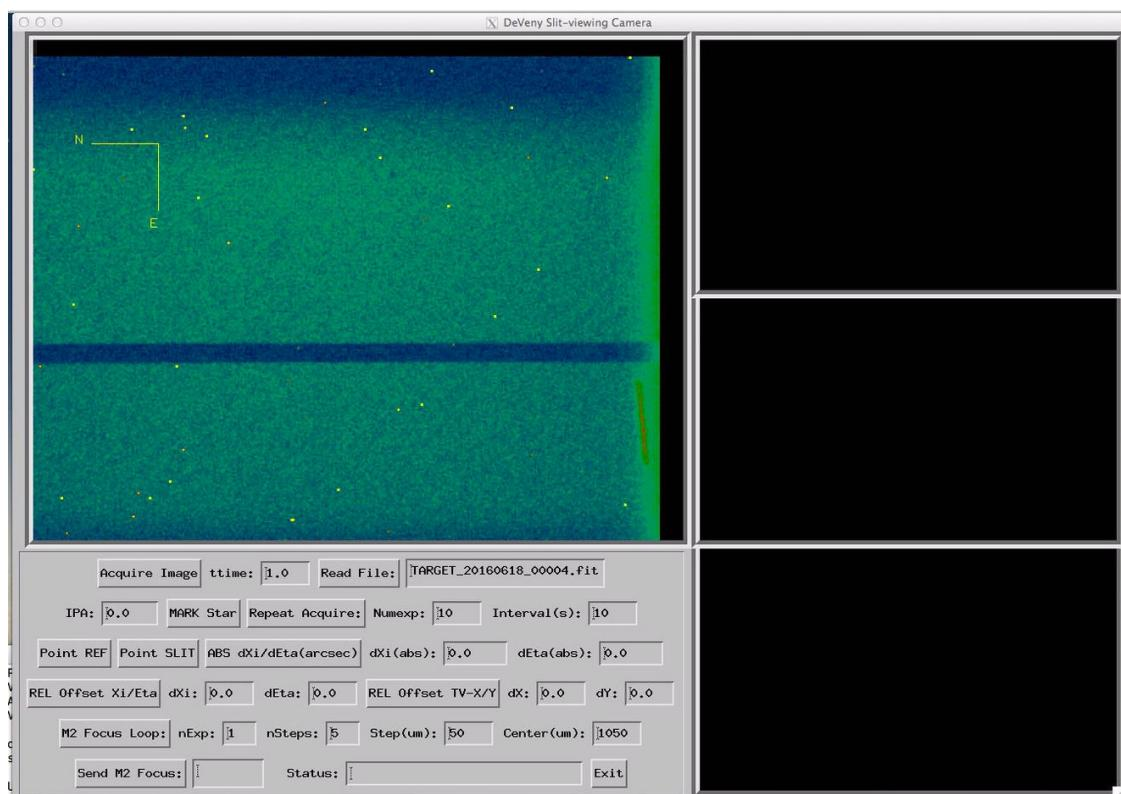

Figure 16. IDL slitviewg control GUI.
- iv. At the idl prompt: type slitviewg'. this launches the slit viewing camera top level control GUI (Figure 16).